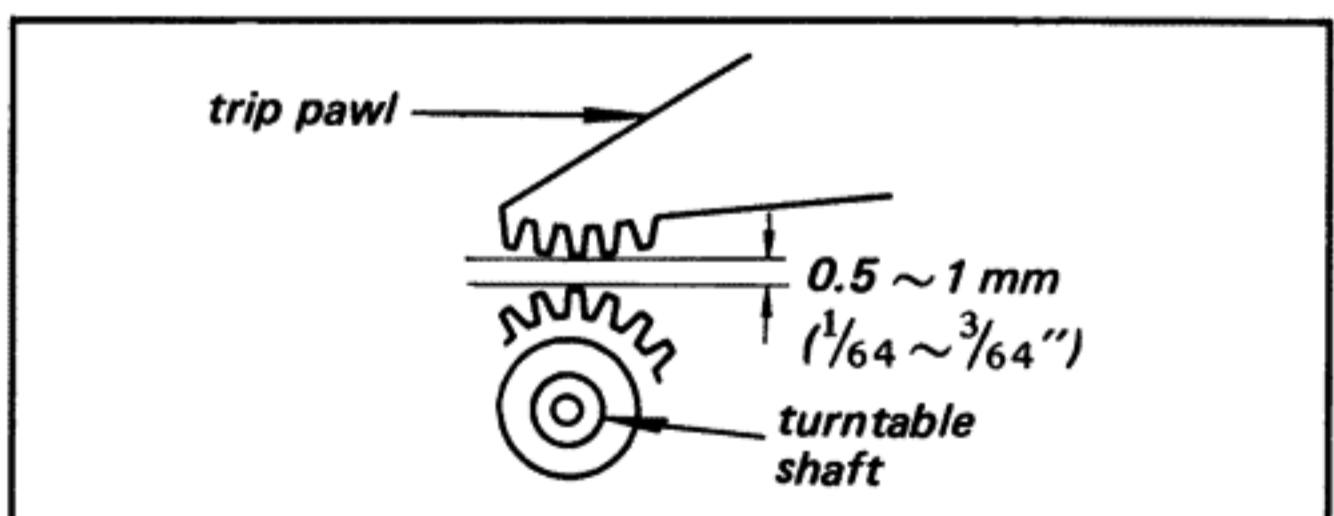

Fig. 2-9. Turntable shaft adjustment
5. Confirm that the clearance between the gear of the turntable shaft and the trip pawl is 0.5 ~ 1 mm ($\frac{1}{64} \sim \frac{3}{64}$ ") as shown in Fig. 2-9.